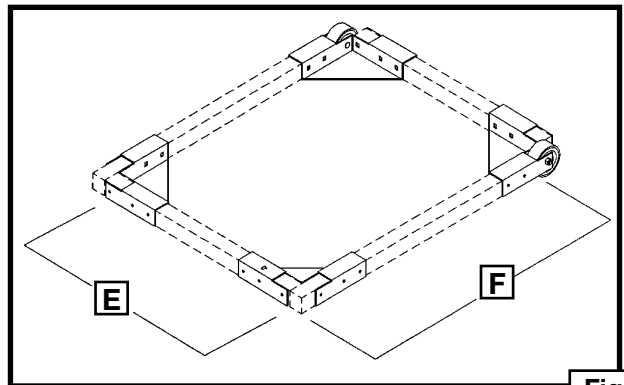

Fig. 5
4. Measure the machine's footprint. Add 1/2" to the width (E) Fig. 5 to accommodate the machine. Cut TWO pieces of 1-1/2" x 1-1/2" hardwood (preferably oak, maple, or cherry). These boards (E) Fig. 5 will be the end sections of the mobile base.
5. Cut TWO pieces of 1-1/2" x 1-1/2" hardwood (F) Fig. 5 to the length of your measurement. These boards (F) Fig. 5 will be the sides of the mobile base.